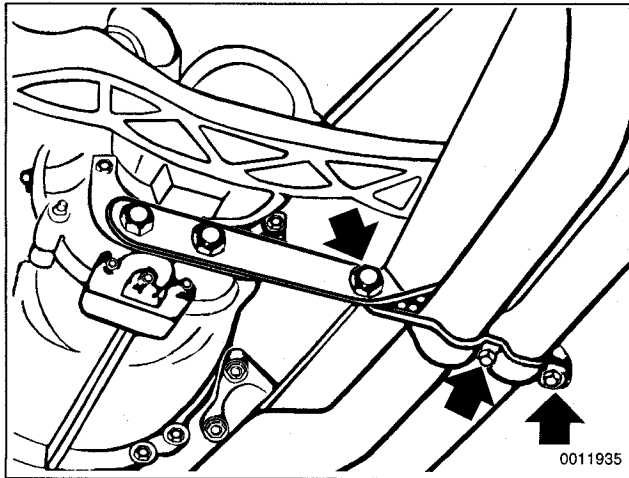

Fig. 6. Exhaust system support bracket on 6-cylinder engine. Remove bolts (**arrows**) to separate from exhaust pipe.
5. Disconnect exhaust support bracket assembly from transmission. See Fig. 6.